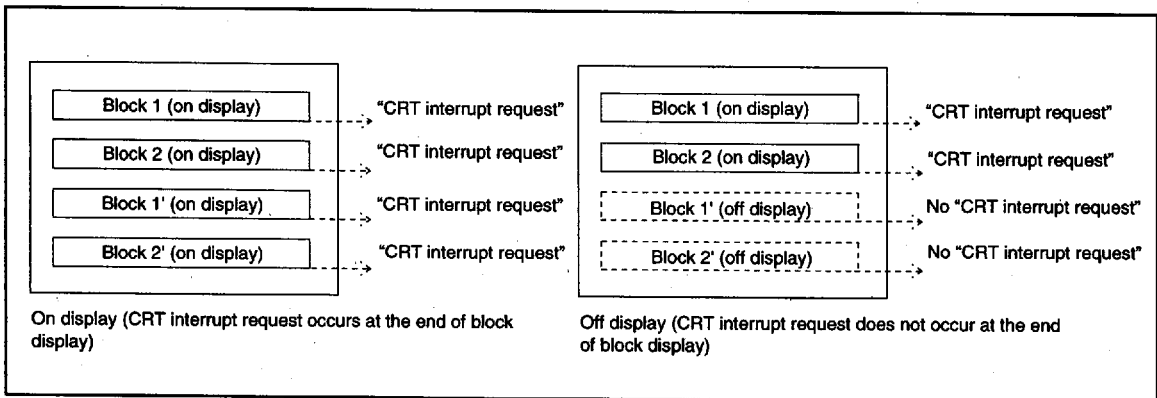

Fig. 64. Timing of CRT interrupt request
**Note:** A CRT interrupt does not occur at the end of display when the block is not displayed. In other words, if a block is set to off display with the display control bit of the CRT control register (address 00CE16), a CRT interrupt request does not occur (refer to Figure 64).